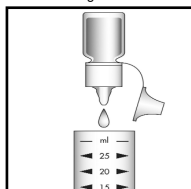

Figure 2
3. Add 10 drops of A-6901 Acidifier Solution to the empty **25 mL sample cup** (fig. 2).